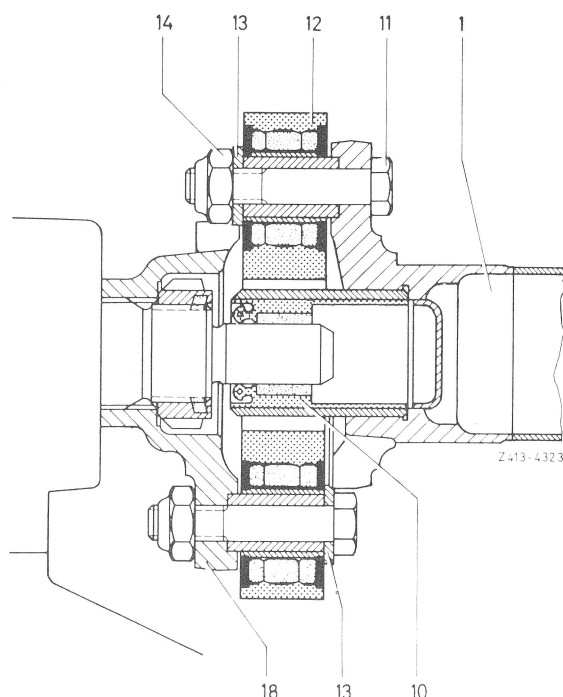

Fig. 4
- 6 Unflange universal shaft on transmission and on rear axle (Fig. 4).